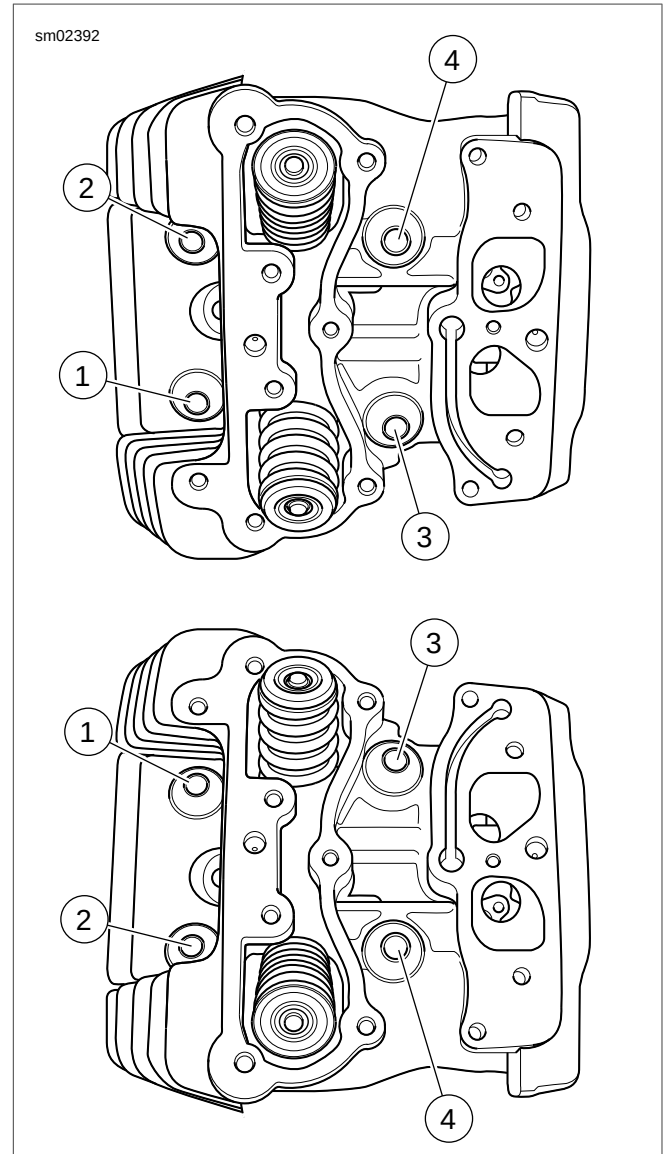

Figure 3-26. 1/4 Turn Head Bolts in Sequence
3. See Figure 3-26. Remove cylinder head bolts: